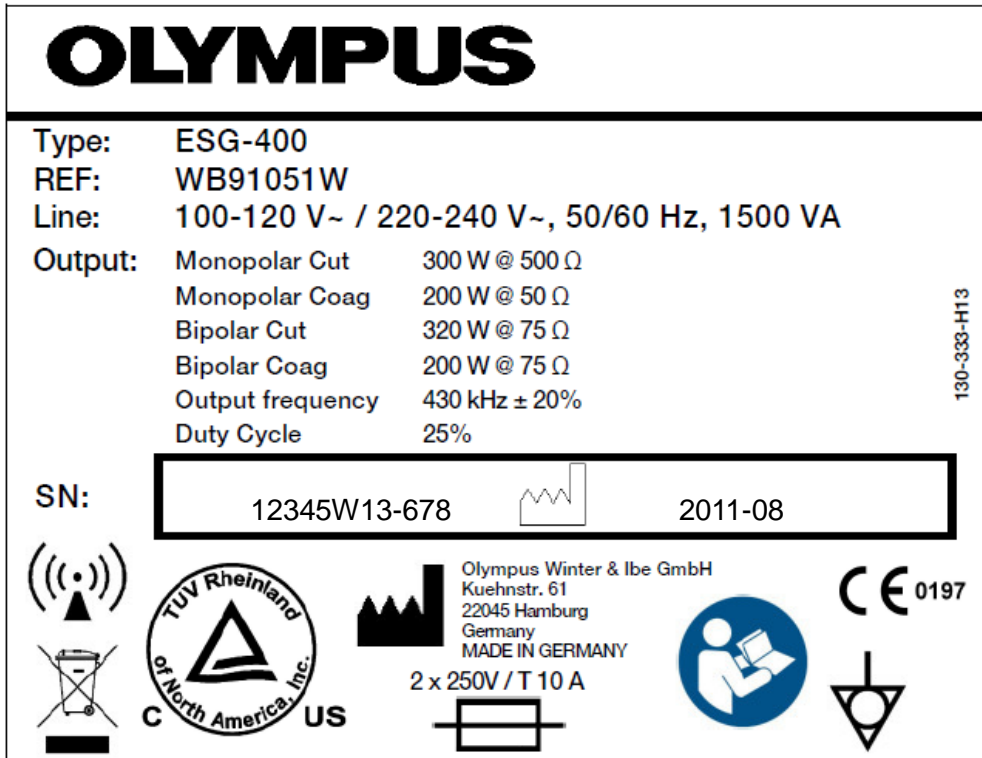
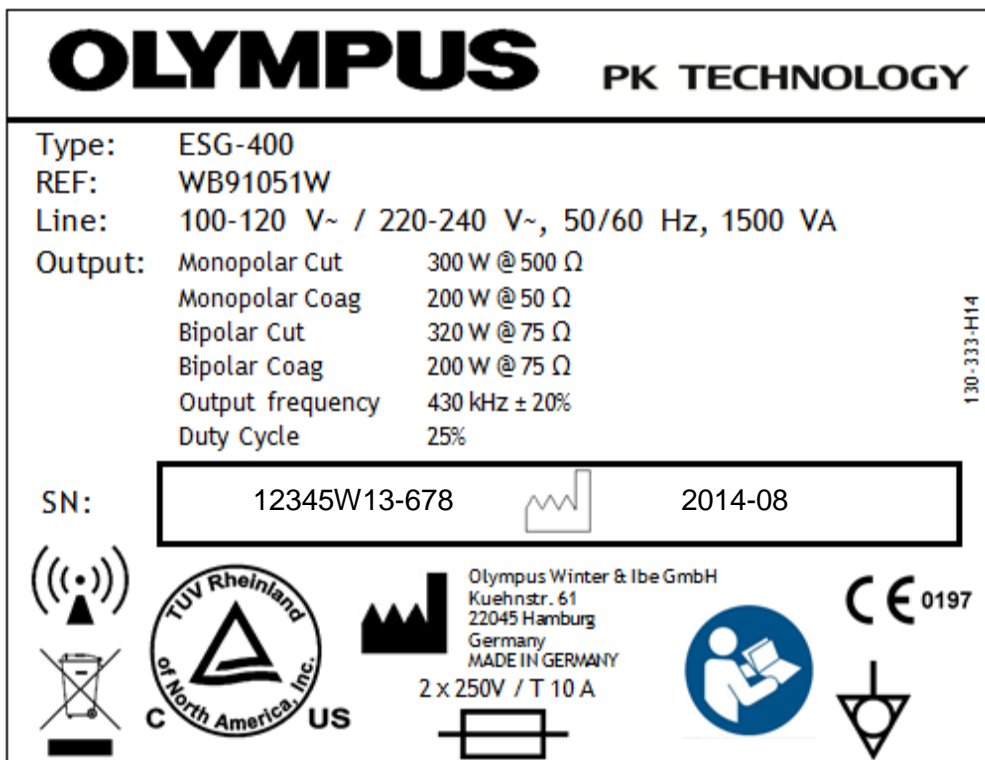
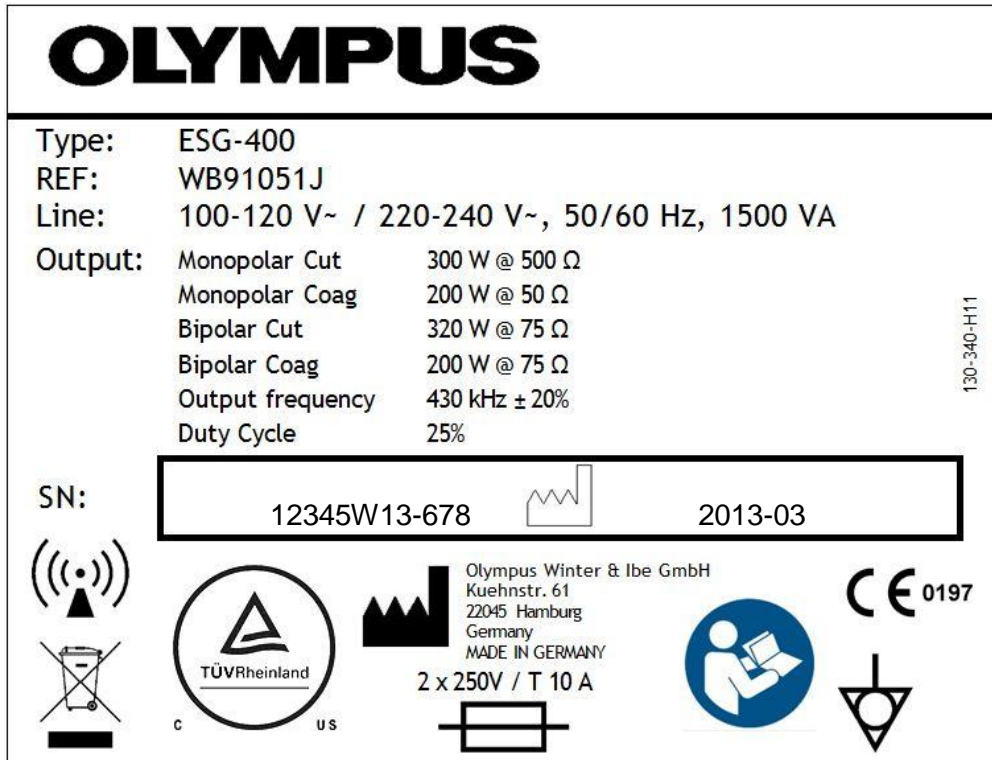
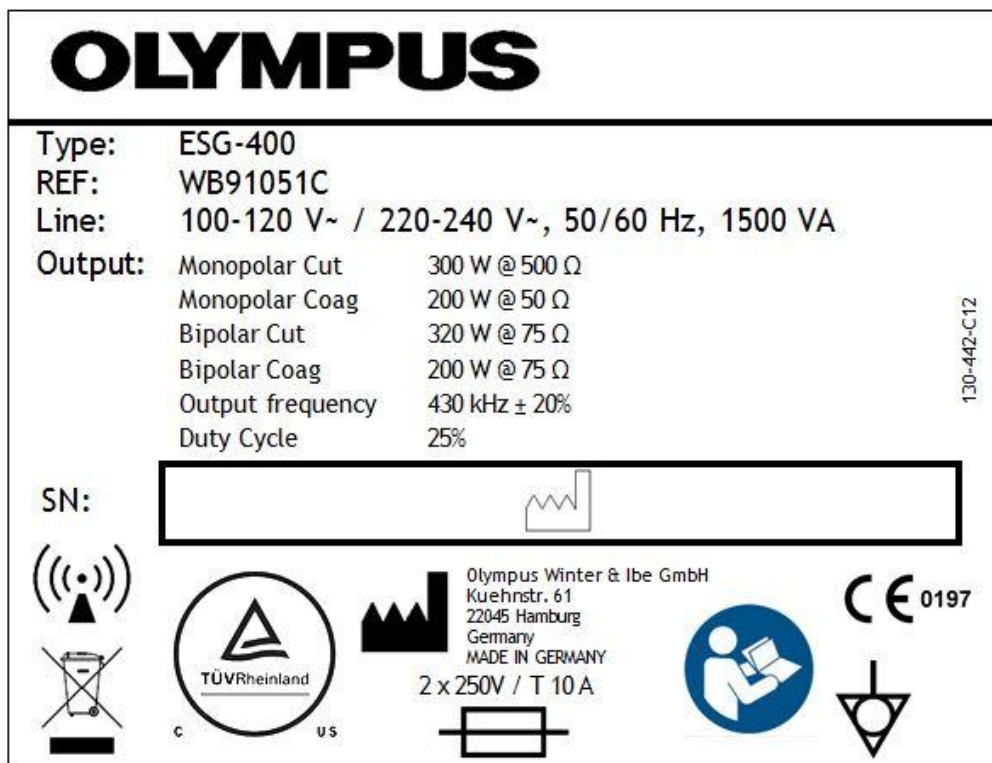

Fig. 5.2.1. Sample of type plate of the electro-surgical unit
Fig. 5.2.2. Sample of type plate of the electro-surgical unit (Standard PK version)
Fig. 5.2.3 Sample of type plate of the electrosurgical unit (Japan Version)
Fig. 5.2.4 Sample of type plate of the electrosurgical unit (China Version)
- 1) Check that the labels according to chapter 5-1 (Front panel, Rear panel) are present and legible. The product name should be clearly visible on the front panel. Verify that the *type plate* shows details about the type of the device, reference number, line voltage range, supply frequency, output power classification, output frequency, duty cycle, serial number, manufacturing date and manufacturer according to Fig. 5.2.1, Fig. 5.2.2, Fig. 5.2.3 or Fig. 5.2.4